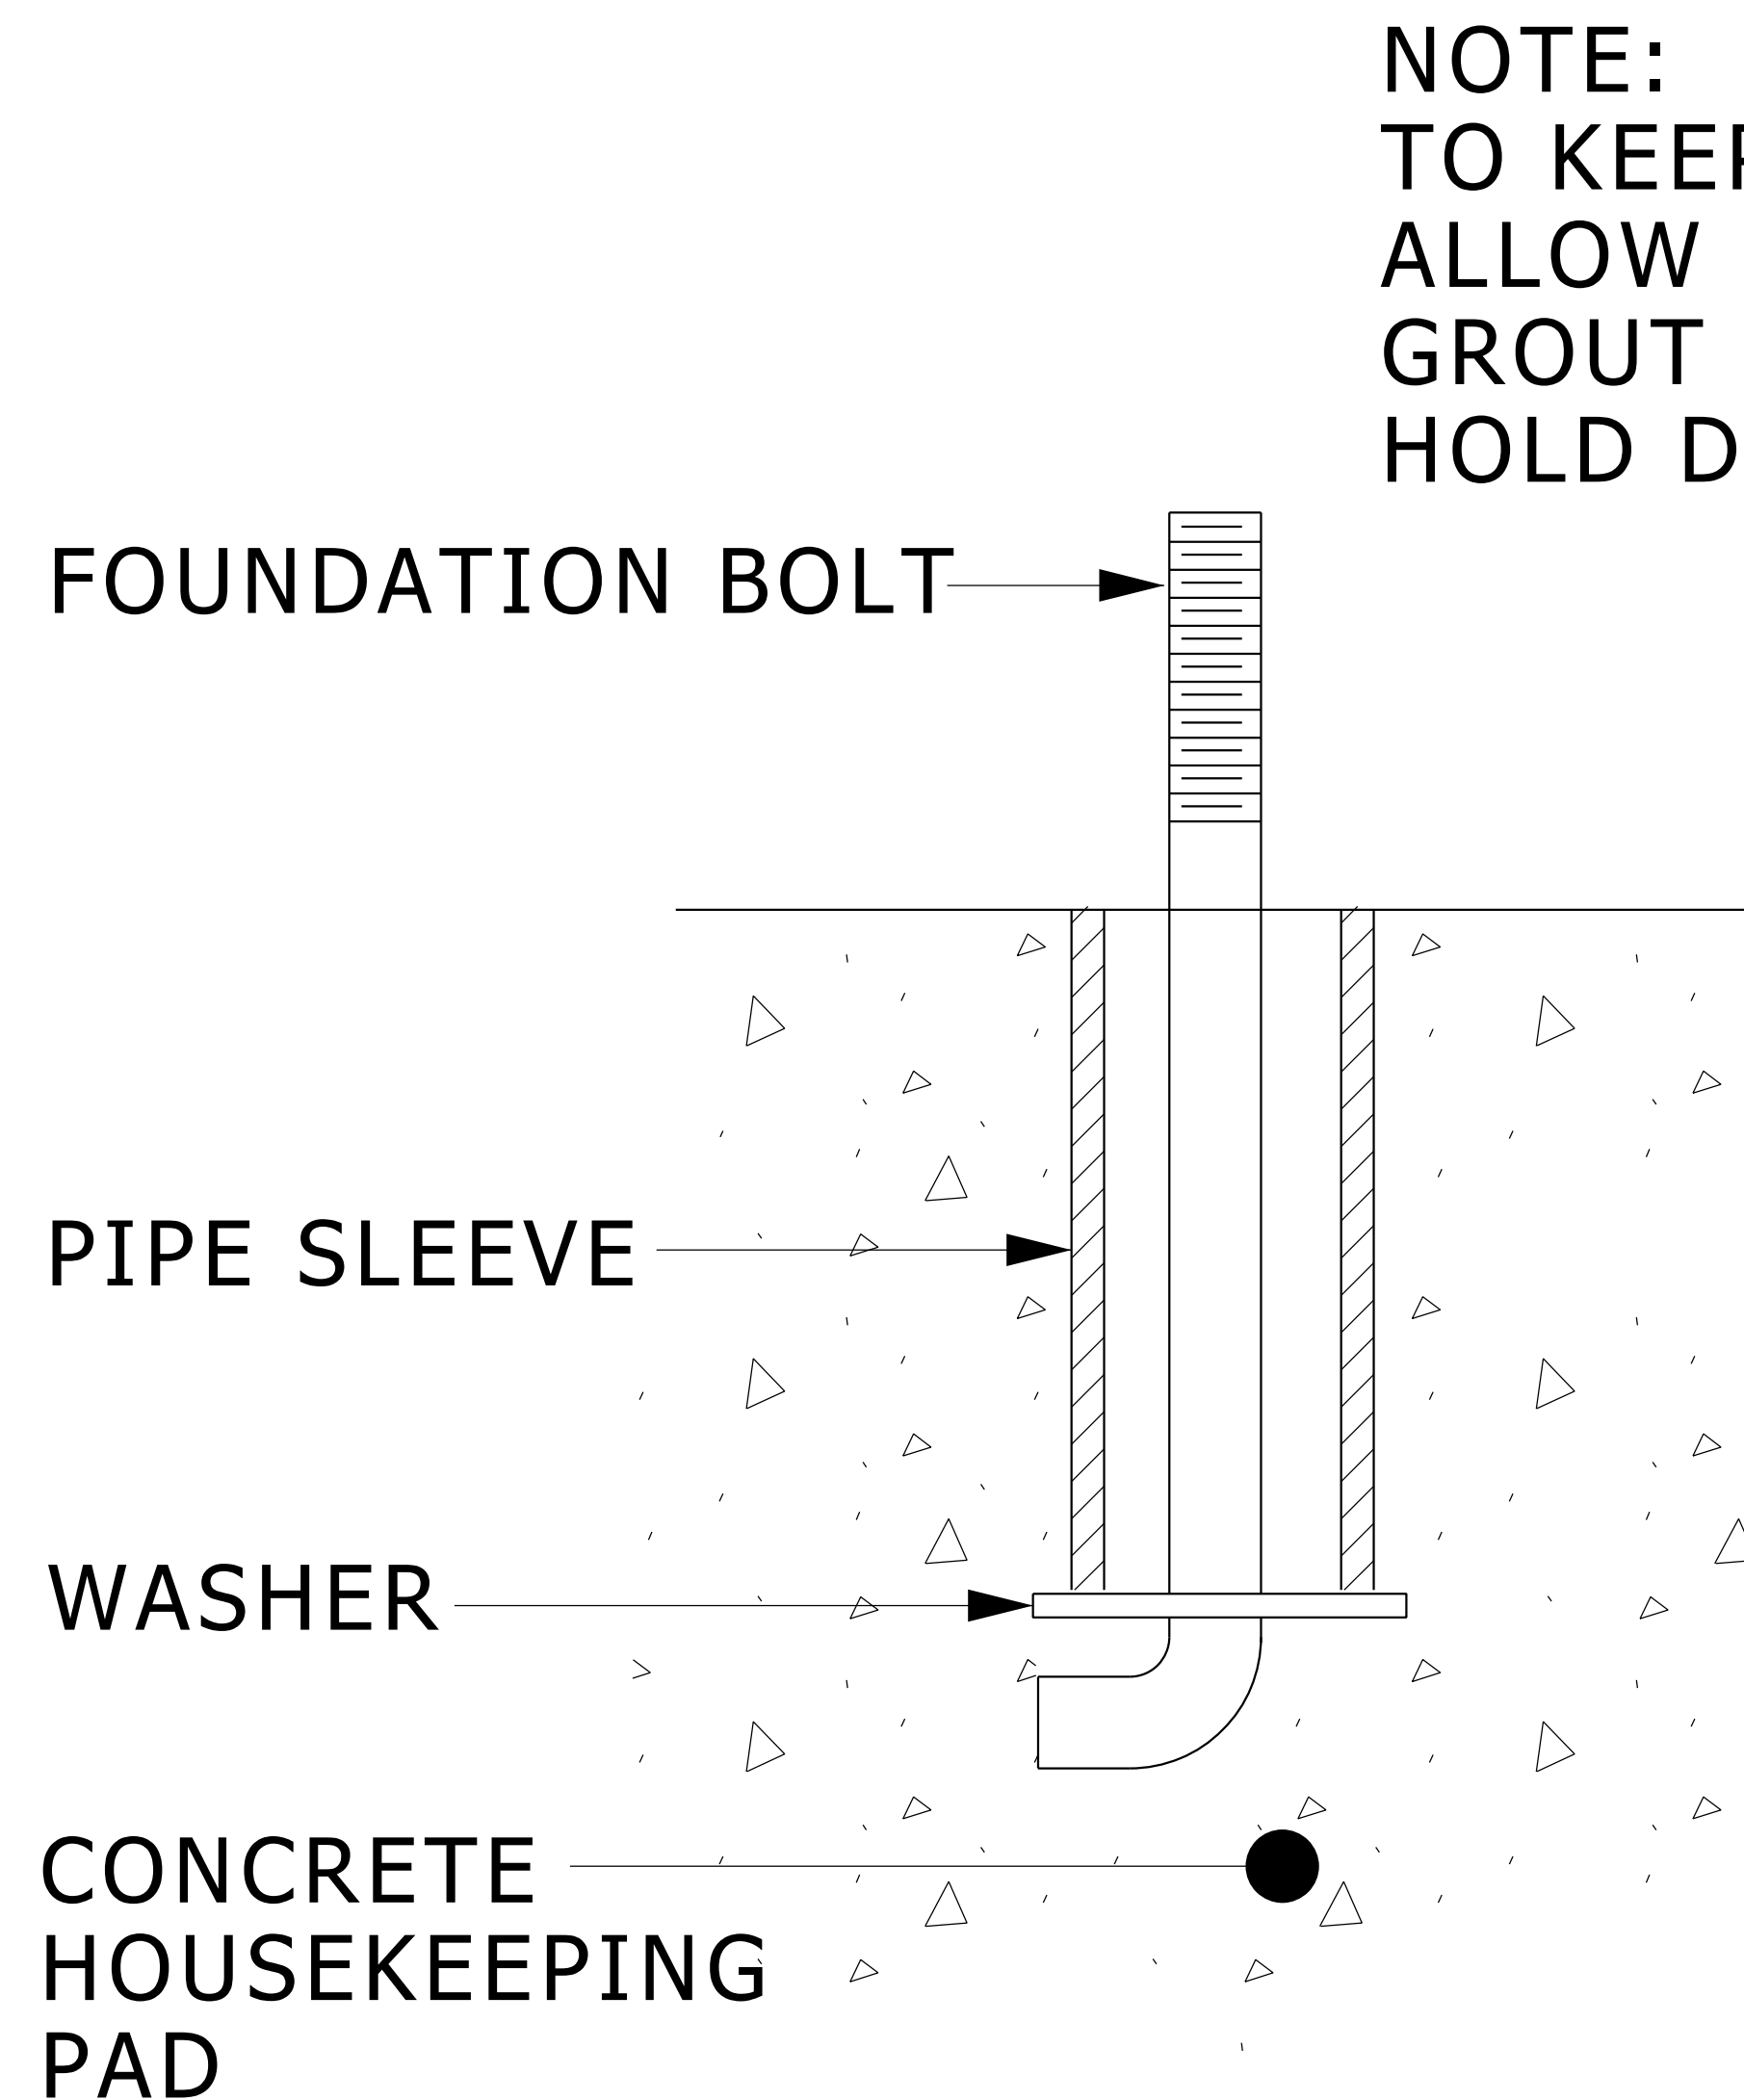

FIGURE 1
1. INSTALL FOUNDATION BOLTS IN NEW CONCRETE HOUSEKEEPING PAD (SEE FIGURE 1).